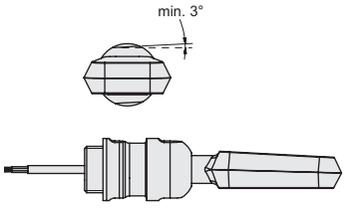

Fig. 3: pms sensor D12-adapter shaft with sensor screw connection BF-pms/A1, all surfaces must be inclined at least 3°
- ➔ Push the sensor with its shaft into the sensor screw connection BF-pms/A1 and align the sensor (see Fig. 3 to Fig. 5). Tighten with lock nut (maximum tightening torque 30 Nm).
- If the sensor is cleaned wet, all surfaces must be inclined at least 3° from the horizontal alignment so that the cleaning agents can run off completely (see Fig. 3 to Fig. 5). There is a risk that condensate or dripping water might drip from the sensor and mounting brackets into the product area.